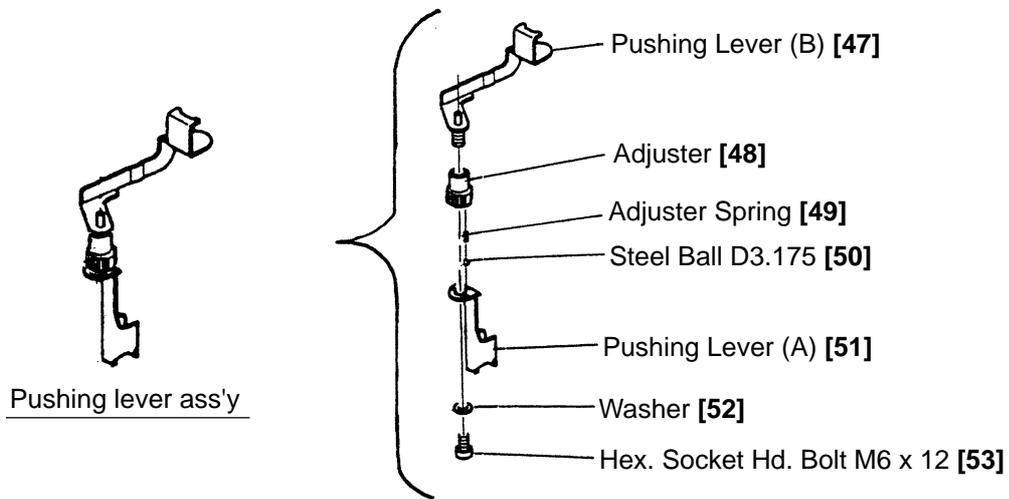
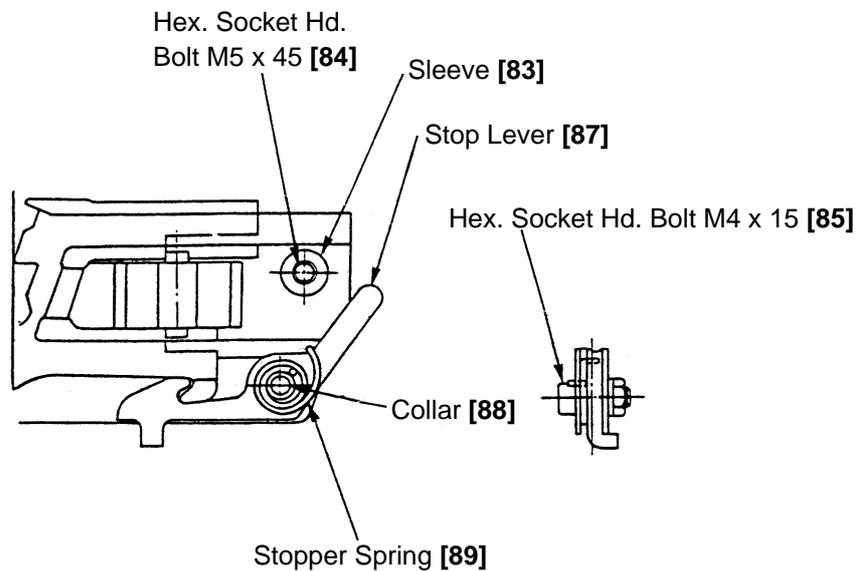

Fig. 14
Fig. 21
- Pull out the Roll Pin D3 x 45 [45] and remove the Guard (B) [44].
- Pressing the Nail Feeder [75] against the Nose [32], remove the Nylock Bolt (W/Flange) M8 x 16 [35] and the High Tension Bolt M6 x 18 [29] from Guard (A) [31] side (then Guard (A) [31] and the Spring Washer [30] can be removed together).
- Remove the four Nylock Hex. Socket Hd. Bolts M8 x 22 [33]. Then Piston Bumper (B) [27] and Gasket (A) [28] can be removed together with the Nose [32] and pushing lever ass'y (Fig. 14).
- Remove the Nose [32] and the pushing lever ass'y from the main body according to 10-2-(3) (Fig. 14).
- Pull out the Roll Pin D3 x 18 [34] and remove the Hex. Socket Hd. Bolt M6 x 12 [53] to remove Pushing Lever (A) [51], Pushing Lever (B) [47], Adjuster [48] and other parts.
- Mount the Stop Lever [87] and the related parts as shown in Fig. 21. When mounting the Stopper Spring [89], hook an end of the Stopper Spring [89] on the Stop Lever [87] and insert the other end into the small hole of the Magazine [82].
- Be sure to check the following items after reassembly. Pay special attention to the items (2) and (4) about the single actuation (single sequential actuation) mechanism that is not provided to the Model NR 83A but the Model NR 83A2. Before checking the following items except (5), check that no nail is loaded in the Magazine **[82]** and the Nose **[32]**.
- (1) Check that the pushing lever ass'y (Fig. 14), Trigger **[59]**, Trigger Plunger **[66]**, Plunger (A) **[56]**, Plunger (B) **[74]**, Valve Sleeve (A) **[69]** and Adjuster **[48]** operate smoothly without connecting to an air compressor. Then check that the Nail Feeder **[75]** moves smoothly in the Magazine **[82]**.
- (2) Connect the Model NR 83A2 to an air compressor and set Valve Sleeve (A) **[69]** to "single actuation (single sequential actuation)" (see 5-2). Check the following when the pressure is 4.5 kgf/cm (63 psi) and 8.5 kgf/cm (120 psi).
- (3) Set Valve Sleeve (A) **[69]** to "contact actuation" (see 5-2). Check the following when the pressure is 8.5 kgf/cm (120 psi).
- ① Check that the Model NR 83A2 does not operate just by pulling the Trigger **[59]**.
- ② Check that the Model NR 83A2 does not operate just by pressing the pushing lever ass'y against a test piece (wood etc.).
- ③ Check that the Model NR 83A2 operates by pulling the Trigger **[59]** first then pressing the pushing lever ass'y against a test piece. (At this time, pull the Nail Feeder **[75]** backward and hook it on the Stop Lever **[87]** (see Fig. 21).)
- (4) Set Valve Sleeve (A) **[69]** to "single actuation (single sequential actuation)". Check the following when the pressure is 8.5 kgf/cm (120 psi).
- ① Check that the Model NR 83A2 does not operate just by pulling the Trigger **[59]** (i.e., check that the Piston **[12]** does not come out of the Nose **[32]** tip (outlet of nails) when keeping the Trigger **[59]** pulled for five seconds or more).
- ② Check that the Model NR 83A2 does not operate just by pressing the pushing lever ass'y against a test piece.
- ③ Check that the Model NR 83A2 operates by pressing the pushing lever ass'y against a test piece first then pulling the Trigger **[59]**. Check that the Piston **[12]** is still showing from the Nose **[32]** tip (outlet of nails) after the pushing lever ass'y is released from the test piece with the Trigger **[59]** pulled.
- (5) Set Valve Sleeve (A) **[69]** to "contact actuation". Set the pressure to 4.5 kgf/cm (63 psi) and load nails in the Magazine **[82]**. Perform nailing operation and check that nails are properly driven (no idling and bent nails).
- (6) Recheck the tightening torque of each screw without connecting to an air compressor.